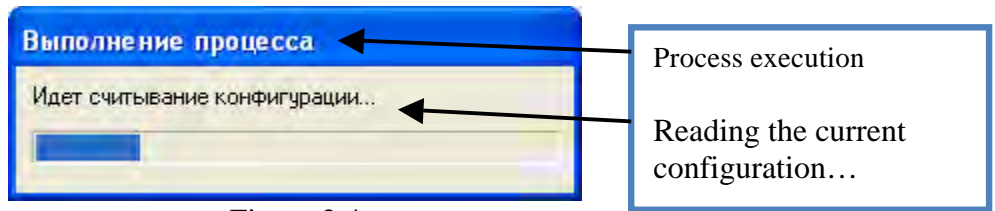

Figure 2.4
Button **"Read"** (4) allows reading the current configuration of the device. Read data are displayed in the appropriate fields of the program. Course reading is displayed in the window (Figure 2.4).